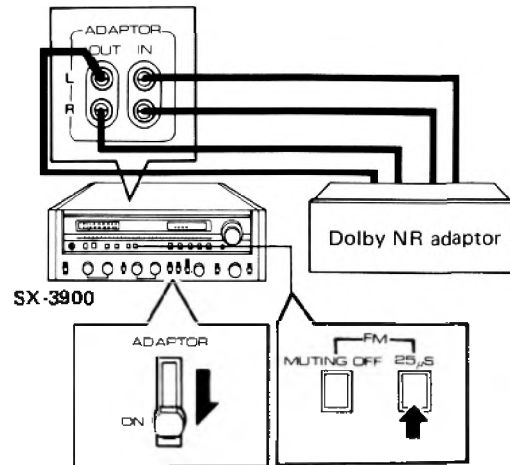

Fig. 12
1. Connect the Dolby NR adaptor to the ADAPTOR jacks (OUT, IN), as shown in Fig. 12.